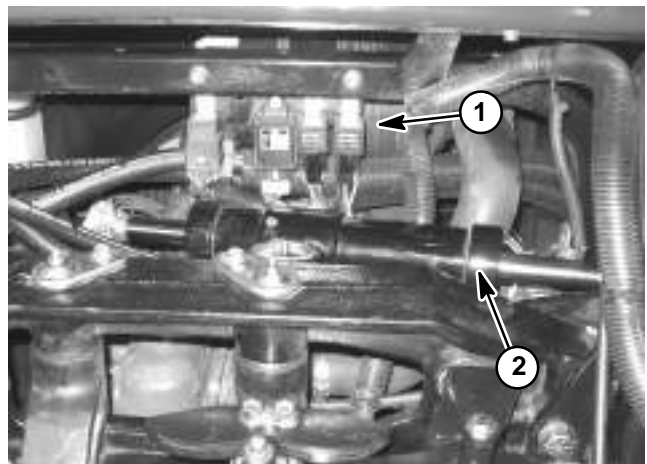

Figure 63
The Groundsmaster 360 electrical system includes identical relays for current control. The main power, glow, start (4WD machines) and cab power (4WD machines with operator cab) relays are attached to the air cleaner bracket near the rear steering cylinder (Fig. 63). The wire harness is attached to these relays with four (4) wire connectors. Relays can be identified by a tag on the wire harness.